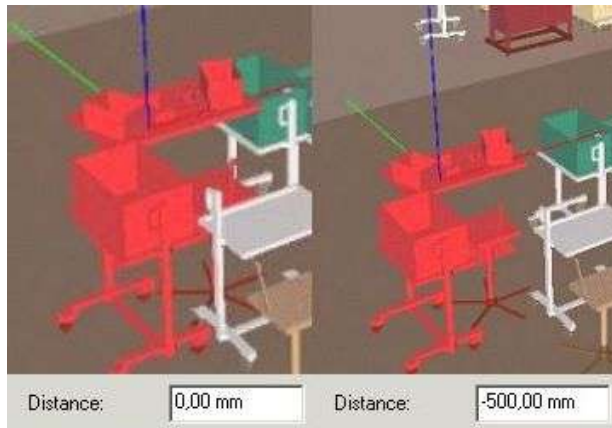

Figure 49: Example: Translating X-Axis, Relative Coordinate System
- 4) Using **Reset** you can reset the **Distance** value to zero. Press the **Close** button to close the dialog. Please refer to the Figure 49.